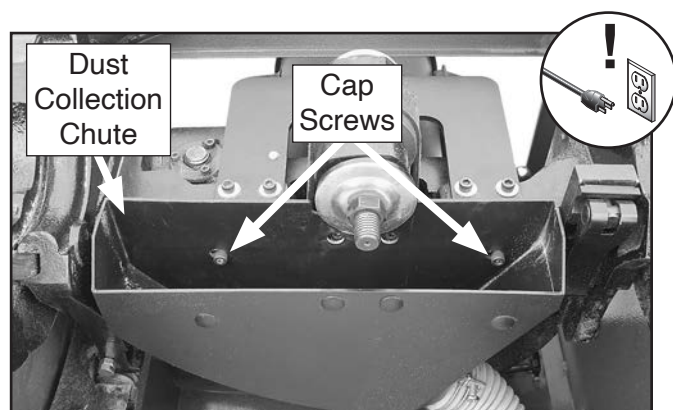

Figure 130. Dust chute mounting screws.
7. Remove cap screws that secure dust collection chute, shown in **Figure 130**, then remove chute.